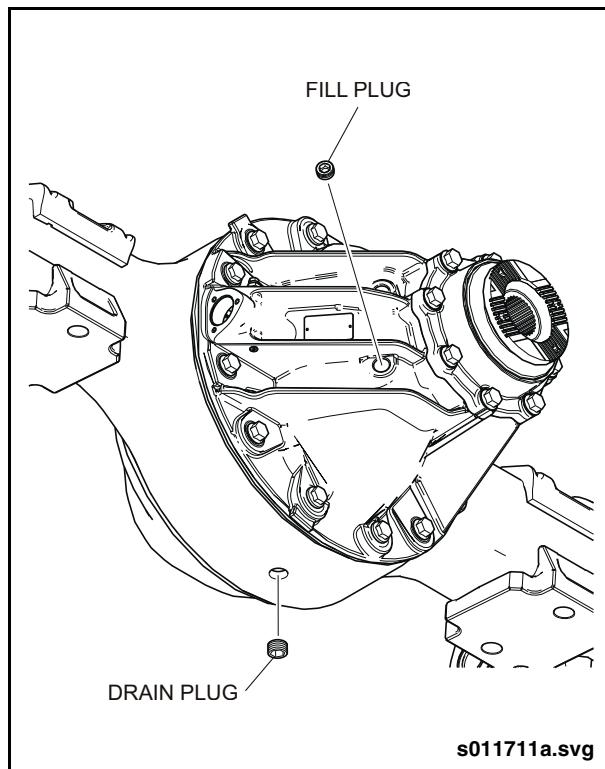

Fig. PM-37: Rear Axle Drain & Fill Locations
3. Remove the fill plug from the front of the differential housing. See "Fig. PM-37: Rear Axle Drain & Fill Locations" on page 77.